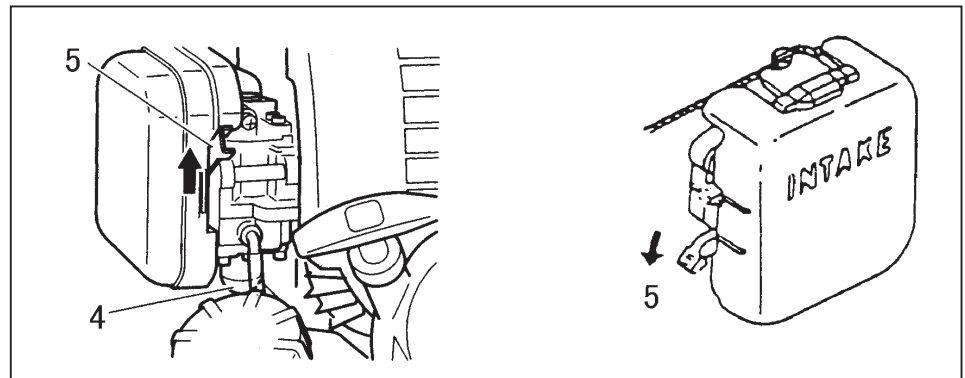

Fig. 2-3
- * Push priming bulb (4) several times so that fuel flows through return pipe. (If so equipped) (Fig. 2-3)
2. With the safety trigger (2) pressed (if so equipped), pull throttle trigger and push throttle lock (3), then slowly release the throttle trigger first, then the safety trigger. This will lock the throttle in starting position.
3. Set choke lever to CLOSED position (5). (Fig. 2-3)